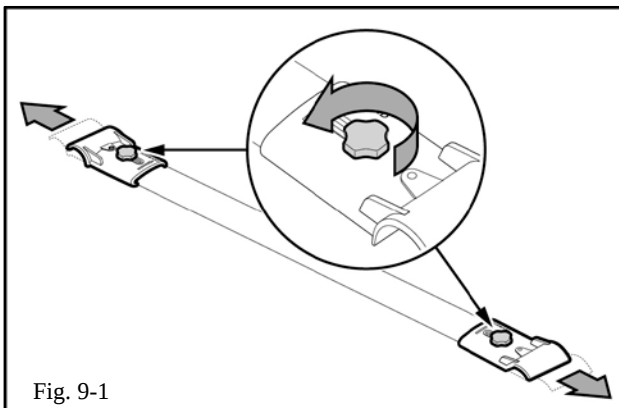

Fig. 9-1
-  (a) Loosen eight crossbar thumbwheel knobs in the adjustment slot and evenly extend to the length of the side rail tubes (Fig. 9-1).